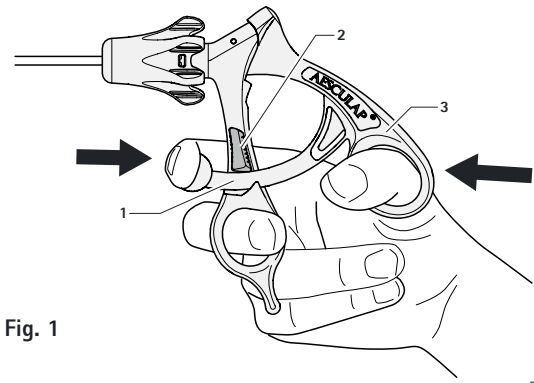

Fig. 1
- To release the ratchet mechanism, press actuating lever 1 and handle part 3 towards each other, see Fig. 1.